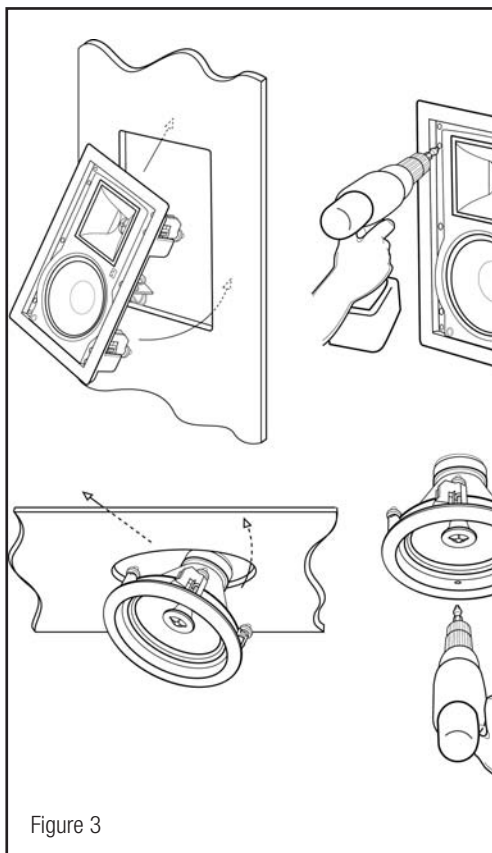

Figure 3
4. Insert the speaker assembly into the opening and attach by tightening the four Phillips screws (figure 3). The frame's "dog" legs will swivel out and "sandwich" the wall and frame together. (Klipsch new construction brackets make this simple if used prior to drywall installation.)